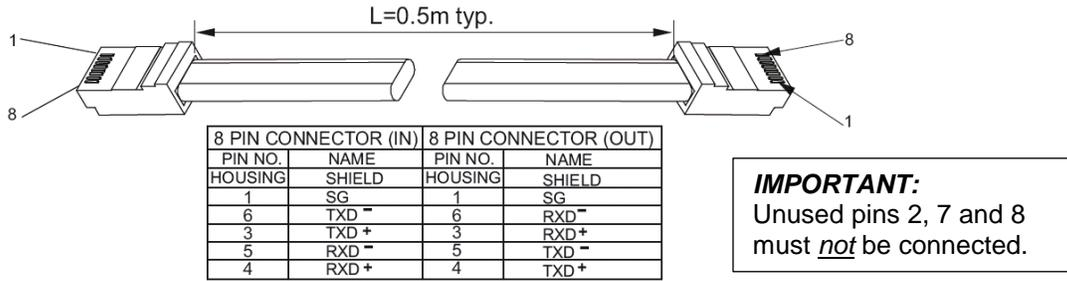

Figure 8-6. Serial Link Cable with Shielded Connectors (P/N: GEN/RJ-45)
- Using the Linking cable (Figure 8-6), connect each unit J3-OUT connector to the next unit J3-IN connector.